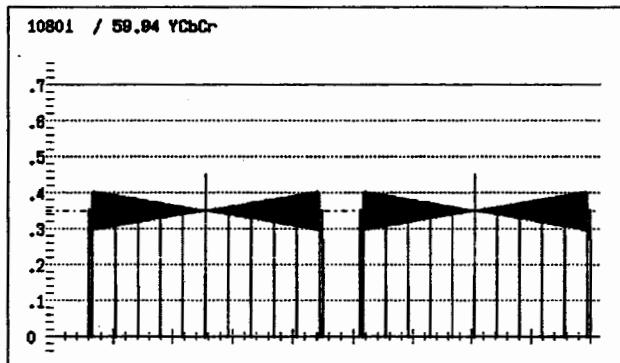

Figure 6.5 Timing Display
Select TIMING using the MODE key ⑭ to measure the time and amplitude differences between channels with respect to CH1 (Y/G). A bowtie signal is used as a signal source. Timing display shows two bowtie displays side by side as shown in Figure 6.5. The conditions of CH1, CH2, and CH3 ⑮ are ignored.